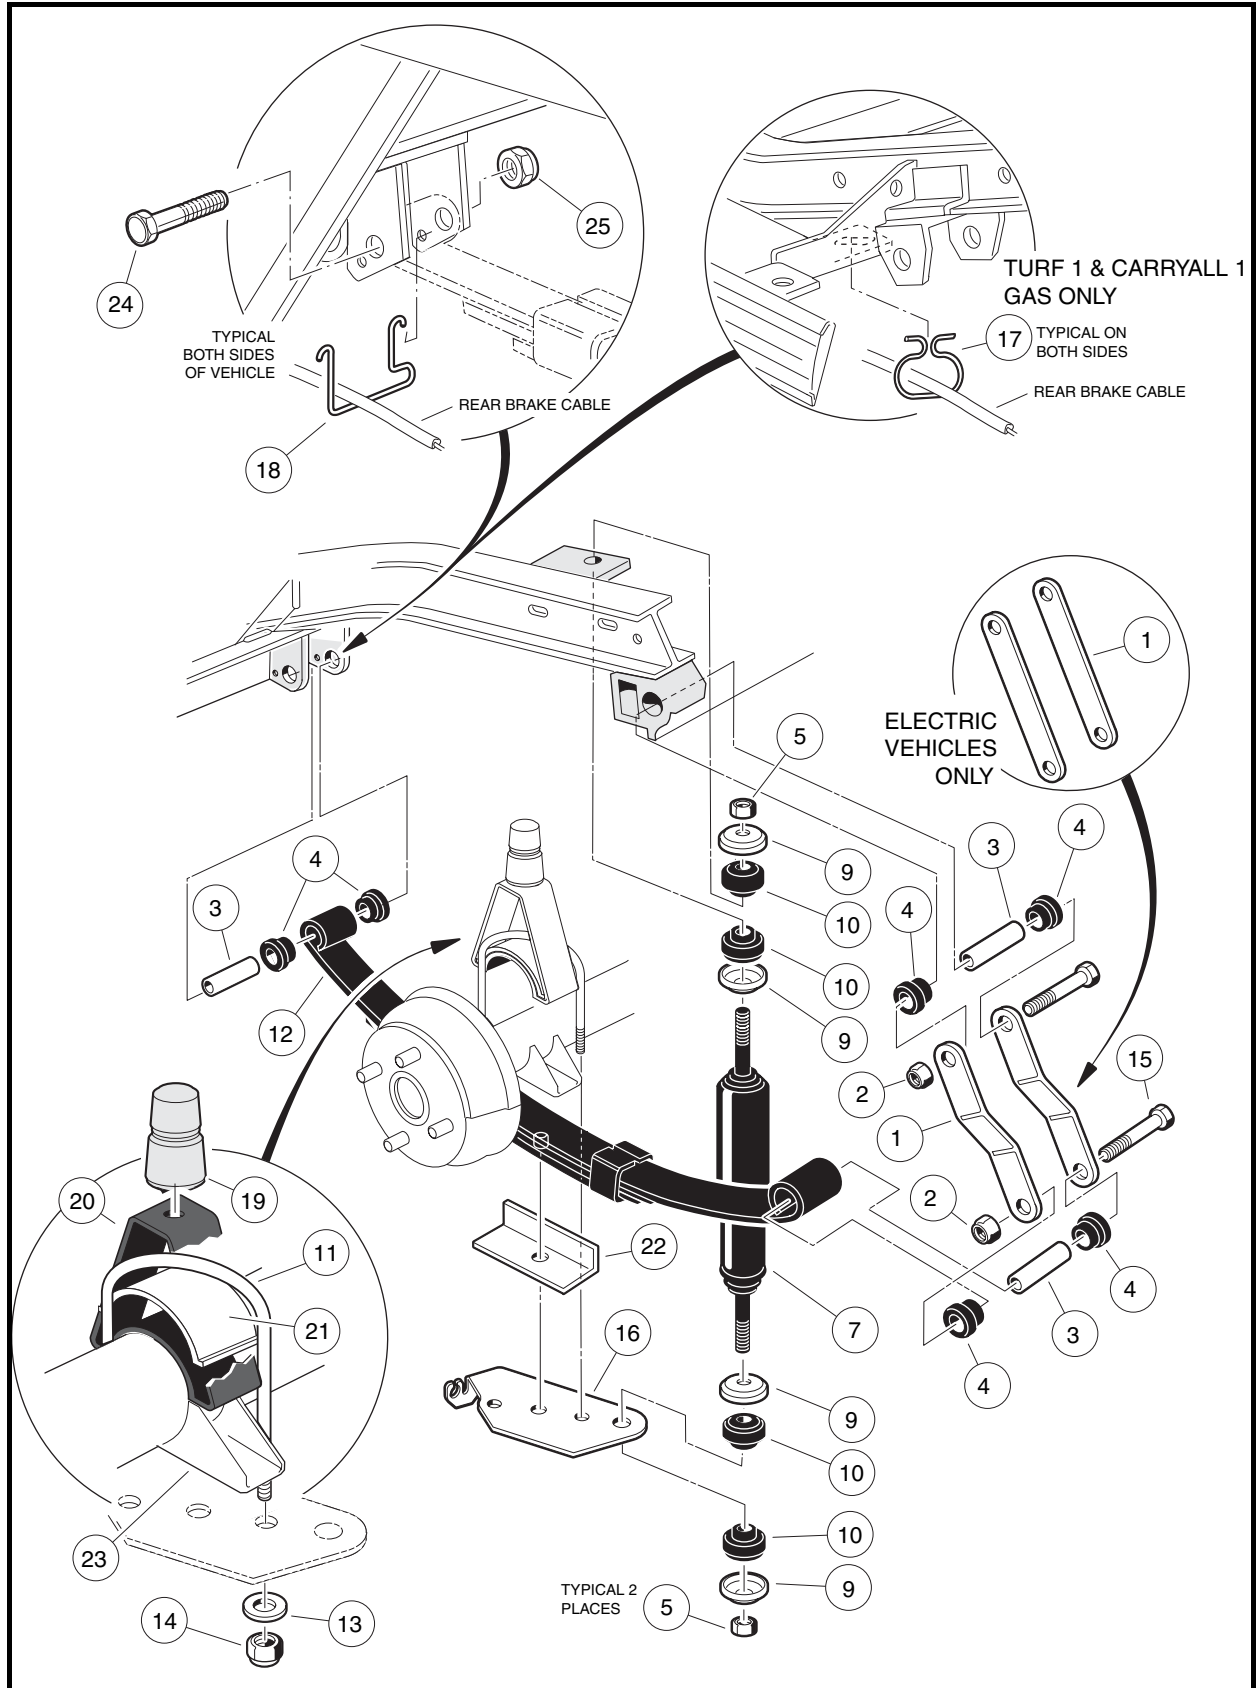
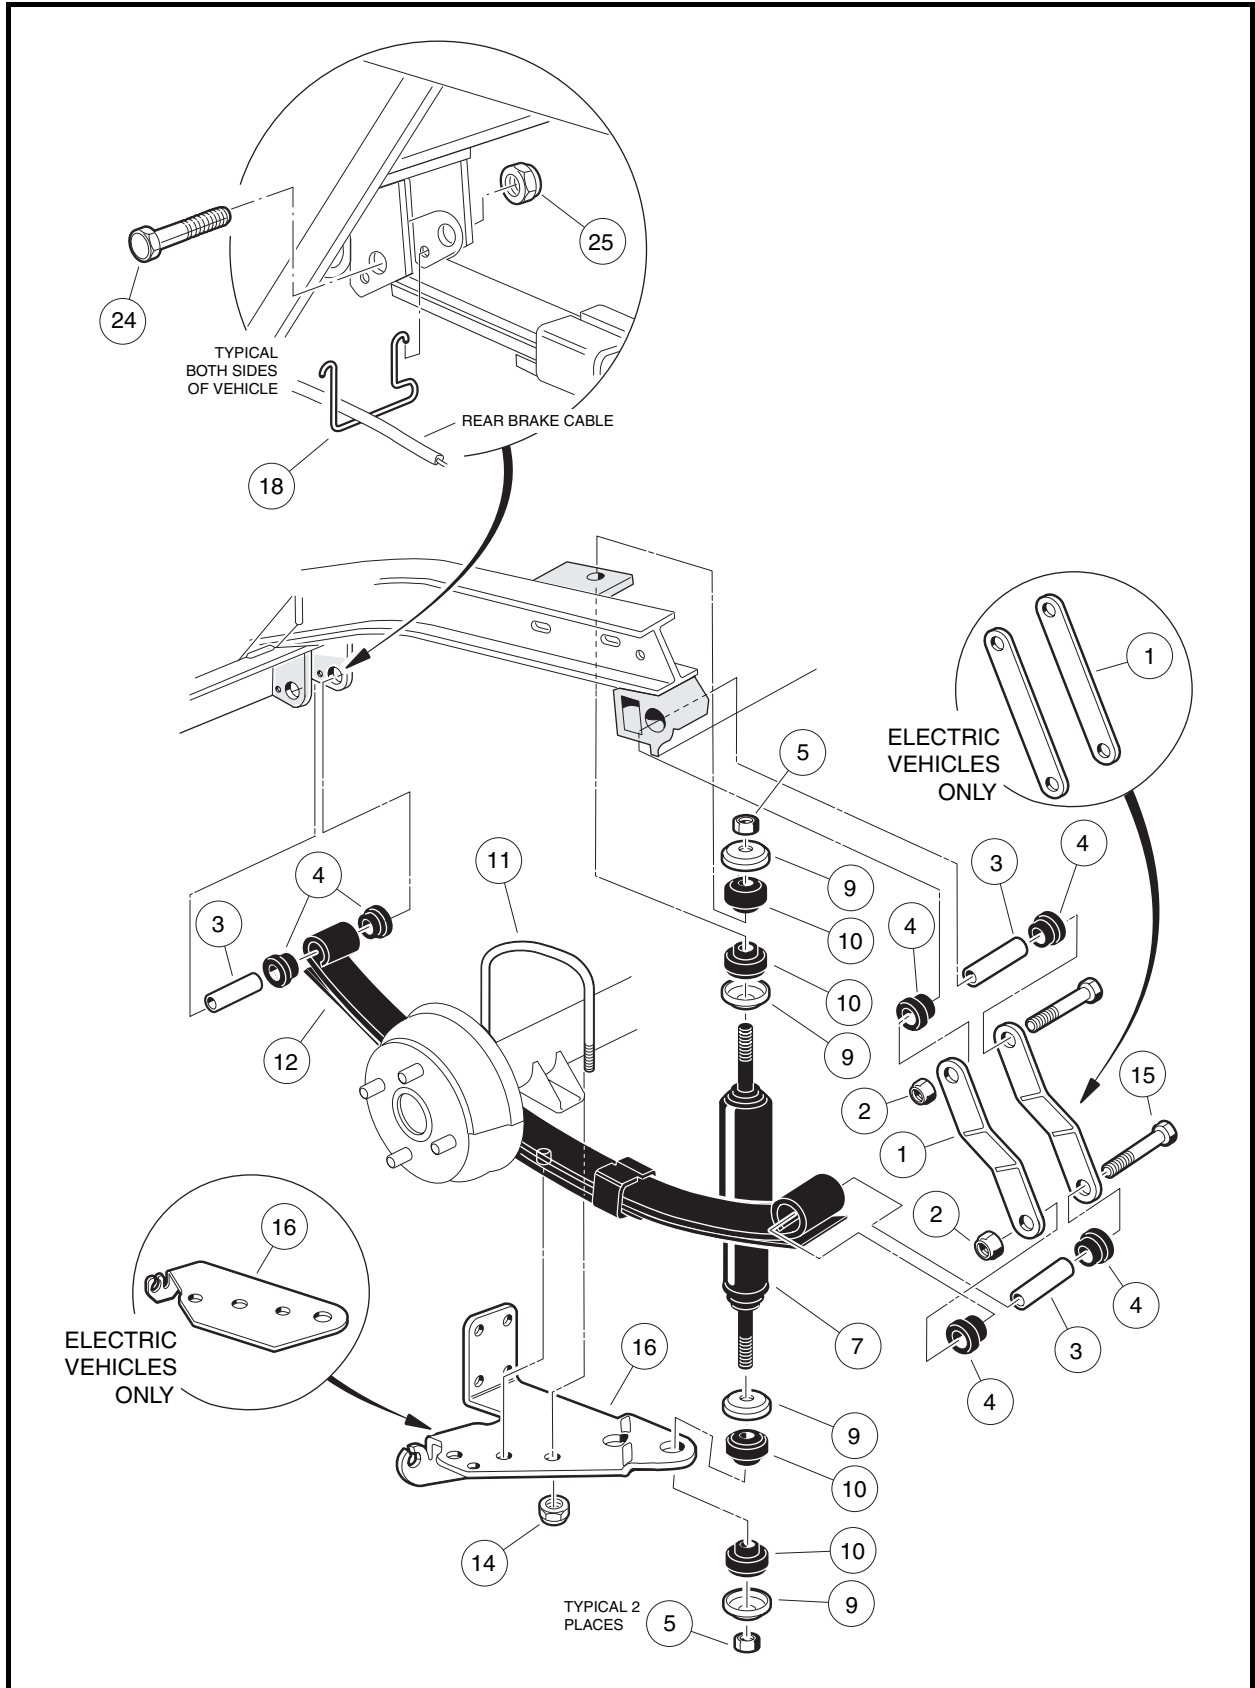

Figure 9-3 Rear Suspension – Turf 1 and Carryall 1 Vehicles
Figure 9-4 Rear Suspension – All Turf and Carryall Vehicles Except Turf 1 and Carryall 1
1. Check shock absorbers (7) for damage and fluid leakage around the lower housing of the shock absorber body. Replace damaged or leaking shock absorbers (**Figure 9-3, Page 9-4 or Figure 9-4, Page 9-5**).
2. To remove a shock absorber (7), remove the nut (5), cup washer (9), and rubber bushing (10) from the upper shock absorber stem.
3. Remove lower mounting hardware (5, 9 and 10) on shock absorber lower mount (**Figure 9-3, Page 9-4 or Figure 9-4, Page 9-5**). See also **Figure 9-1, Page 9-1**.
2. On the upper shock absorber mount, tighten nut (5) until rubber bushing (10) expands to size of cup washer (9) (**Figure 9-3, Page 9-4 or Figure 9-4, Page 9-5**).
3. On the lower shock absorber mount, install mounting hardware. Tighten the nut (5) until the rubber bushing (10) expands to the same diameter as the cup washer.
**NOTE:** Turf 1 and Carryall 1 vehicles are equipped with jounce bumpers (**Figure 9-3, Page 9-4**).
5. Remove lower nut (5), cup washer (9), and rubber bushing (10) from shock absorber (7) (**Figure 9-3, Page 9-4 or Figure 9-4, Page 9-5**).
- 6.1. Remove the lock nuts (14) and flat washers (13) (if present) attaching the U-bolt (11) to the shock mount bracket (16). Remove jounce bumper mount (20) and spacer (21) (**Figure 9-3, Page 9-4**).
- 6.2. Allow shock mount bracket (16) to rotate downward and remove spring retainer (22). Do not disconnect brake cable from bracket (**Figure 9-3, Page 9-4**).
7. **All Turf and Carryall vehicles except Turf 1 and Carryall 1:** Remove the lock nuts (14) attaching the U-bolt (11) to the shock mount bracket (16). Do not disconnect brake cable from bracket (**Figure 9-4, Page 9-5**).
8. Raise axle with floor jack until axle saddle (23) is 1 inch (2.5 cm) above spring (**Figure 9-3, Page 9-4**).
9. Remove bolt (15) and lock nut (2) attaching the leaf spring (12) to the rear shackle (1) (**Figure 9-3, Page 9-4 or Figure 9-4, Page 9-5**).
10. Allow rear of leaf spring (12) to rest on the ground and remove the bolt (24) and lock nut (25) attaching the front of the spring to the vehicle frame (**Figure 9-3, Page 9-4 or Figure 9-4, Page 9-5**). Remove spring from vehicle.
11. Inspect the rubber bushings (4) and steel sleeves (3) in the spring eyes and replace them if they are worn or damaged (**Figure 9-3, Page 9-4 or Figure 9-4, Page 9-5**).
1. Install rubber bushings (4) and steel sleeves (3) into leaf spring eyes if bushings were removed (**Figure 9-3, Page 9-4 or Figure 9-4, Page 9-5**).
2. Place front of leaf spring (12) into vehicle frame and insert bolt (24) through frame and leaf spring eye. Install lock nut (25) and tighten to 15 ft-lb (20.3 N·m).
3. Align the other end of leaf spring with the holes in the spring shackles (1). Insert bolt (15) through leaf spring eye and shackles. Install lock nut (2) and tighten to 15 ft-lb (20.3 N·m). Lower transaxle onto leaf spring (12). **See following CAUTION.**
- When placing transaxle on spring, be sure to position locating bolt on the spring in the locating hole in the transaxle saddle (23) (**Figure 9-3, Page 9-4**).
- 4.1. Install spring retainer (22) and shock mount bracket (16) onto locating bolt at bottom center of leaf-spring (**Figure 9-3, Page 9-4**). See preceding **CAUTION**.
- 4.2. Position jounce bumper mount (20) with spacer (21) onto axle tube. Install U-bolt (11), flat washers (13) (if present), and lock nuts (14). Tighten U-bolt to 25 ft-lb (34 N·m) (**Figure 9-3, Page 9-4**).
**5. All Turf and Carryall vehicles except Turf 1 and Carryall 1:** Install shock mount bracket (16) onto locating bolt at bottom center of leaf-spring (**Figure 9-4, Page 9-5**). See following **NOTE**.
- 5.1. Install U-bolt (11) and lock nuts (14). Tighten U-bolt to 25 ft-lb (34 N·m) (**Figure 9-4, Page 9-5**).
1. Grip jounce bumper (19) and pull from bumper mount (20) (**Figure 9-3, Page 9-4**).
1. Insert jounce bumper (19) into bumper mount (20) (**Figure 9-3, Page 9-4**). Make sure the entire circumference of bumper is seated firmly in mounting hole.